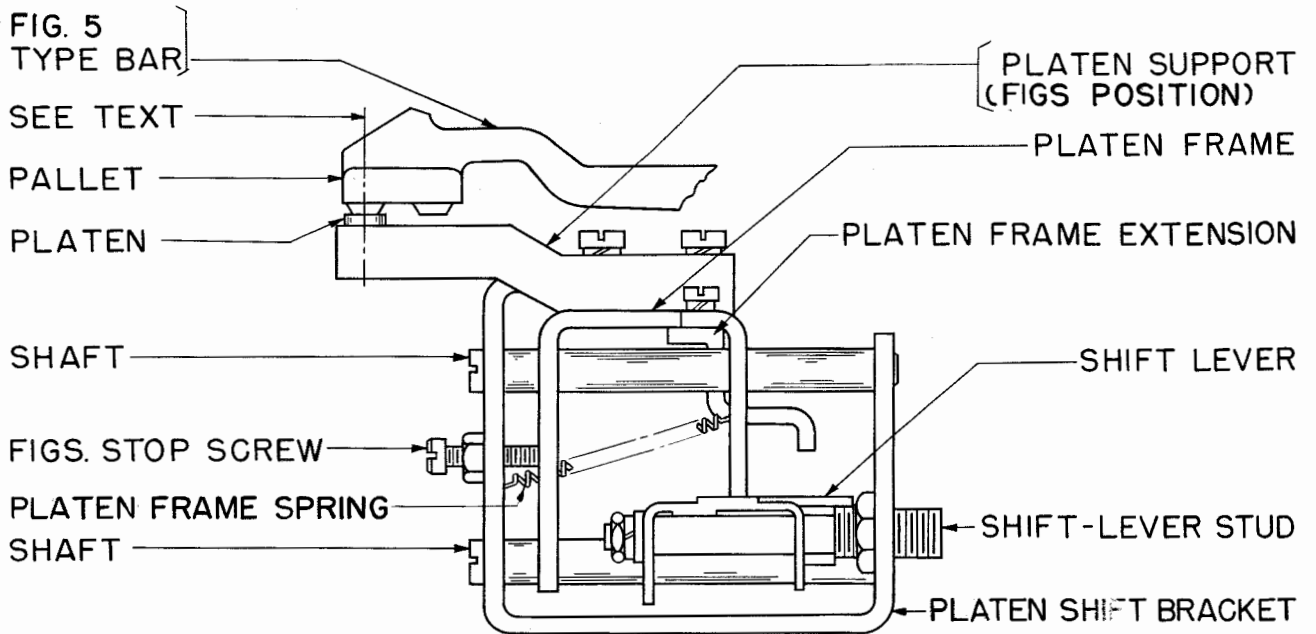

Figure 32
2.46 FIGS Stop-screw: The figure 5 shall print directly in front of and in line with the letter T (printed in 2.44) when the platen frame is unlatched and resting against the FIGS stop-screw (forward position). See Figure 32.